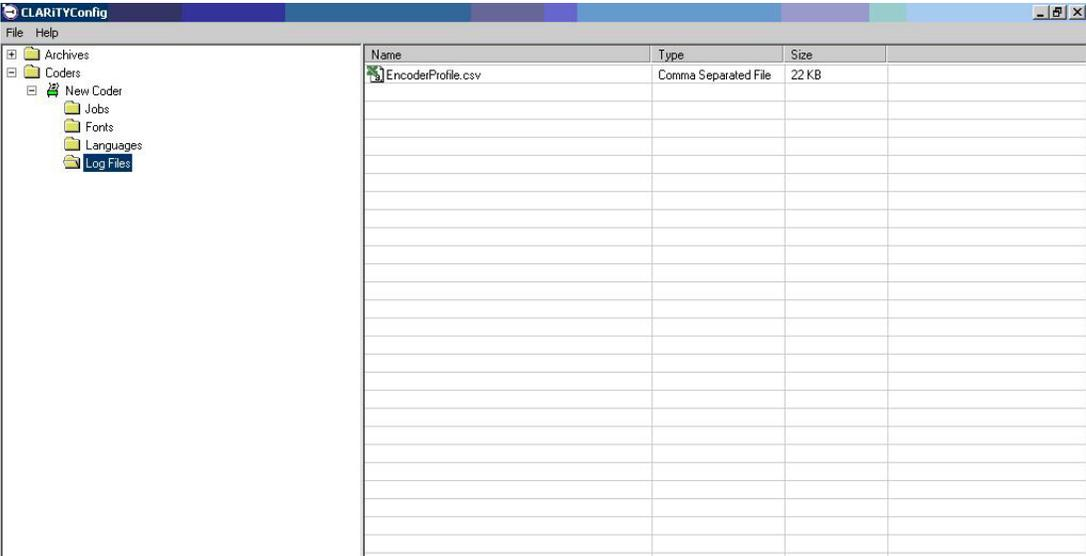

Figure 5-19: Encoder Profiles - Log Files
- 3. To access this file, select Log Files folder from new coder as shown in Figure 5-19.